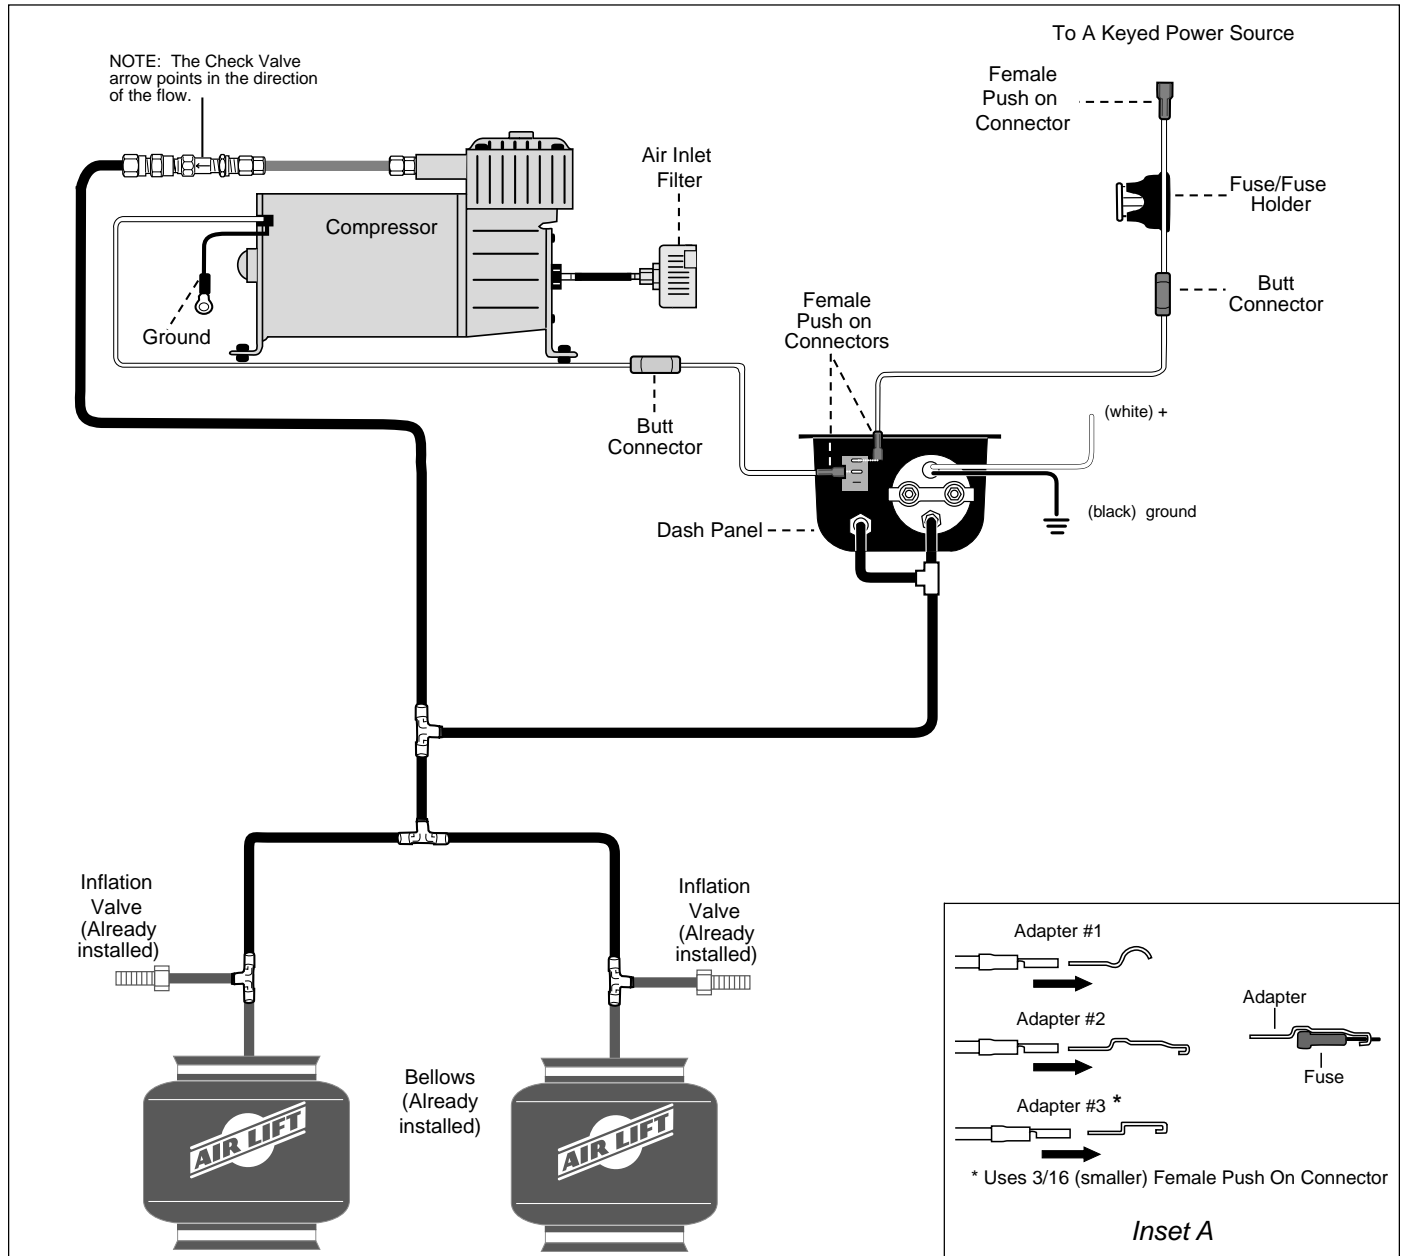

Figure 1
3. Connect the (red) wire from the panel to the (red) wire on the compressor using a blue butt connector (Figure 1). Connect the other end of the wire to the push switch using the blue $\frac{3}{16}$ female push on connector. With your thumb against the front side of the switch, push the connector onto one of the terminals on the back of the ON/OFF switch on the gauge panel
5. Determine the length of supplied (red) wire required to connect the dash panel to the fuse assembly. Cut and crimp the wire into the butt connector (Figure 1). Connect the other end of the wire to the push switch using the blue $\frac{3}{16}$ " female push on connector. With your thumb against the front side of the switch, push the connector onto the remaining terminal on the back of the ON/OFF switch on the gauge panel.
4. Determine the location of the third tee. Cut the air line between the first two tees and install a third (Figures 1 & 6).
7. Determine the closest and easiest area to connect the gauge panel to the air line between the compressor and air springs. Measure the distance between these two points and cut the air line and install the last tee (Figures 1 & 6).